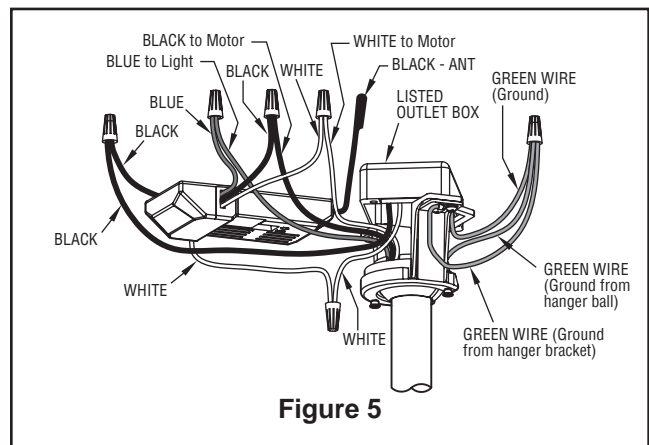

Figure 5
5. Reinstall the hanger ball on the downrod as follows. Route the three 80-inch wires through the hanger ball. Position the pin through the two holes in the downrod and align the hanger ball so the pin is captured in the groove in the top of the hanger ball. Pull the hanger ball up tight against the pin. Securely tighten the set screw in the hanger ball. A loose set screw could create fan wobble (Figure 5).
4. Connect green wires from hanger bracket and hanger ball to bare (ground) wire using wire connector supplied. Connect black wire from receiver unit marked "AC IN L" to black supply wire using wire connector supplied. Connect white wire from receiver unit marked "AC IN N" to white supply wire using wire connector supplied. Connect white wire from receiver unit marked "TO MOTOR N" to white wire from fan using wire connector supplied with receiver. Connect black wire from receiver unit marked "TO MOTOR L" to black wire from fan using wire connector supplied. Lastly, connect blue wire from receiver to the blue fan light wire using wire connector supplied. Position all connected wires and receiver antenna to allow installation of ceiling canopy (Figure 5).
- 5. Remove one of the three screws in the plate assembly. Slightly loosen the remaining two screws. Assemble the socket plate to the adapter plate assembly using the two key slots. Replace the third screw and securely tighten all three screws (Figure 5).